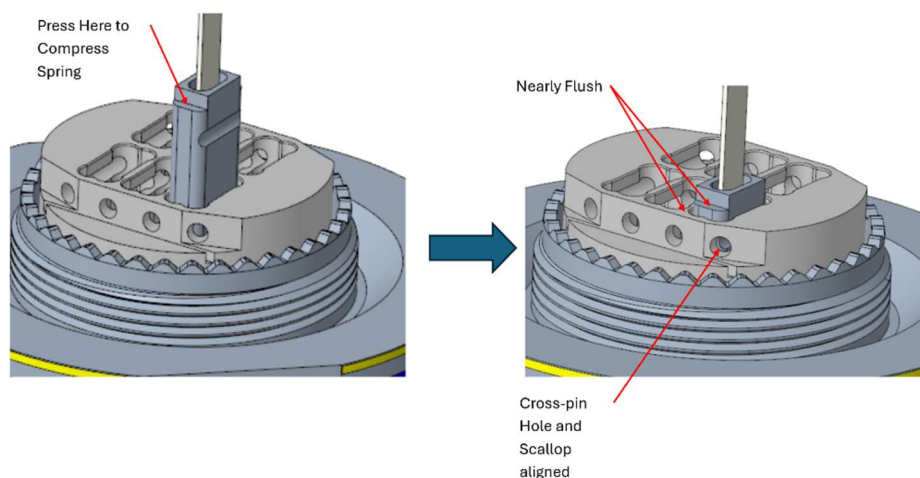

Figure 10
- Once fully seated, compress spring by pressing on rear steps of retainer until step is nearly flush with the rear of the insert. The cross-pin hole of the insert and scallop in the retainer will also be approximately aligned – see *Figure 10*.